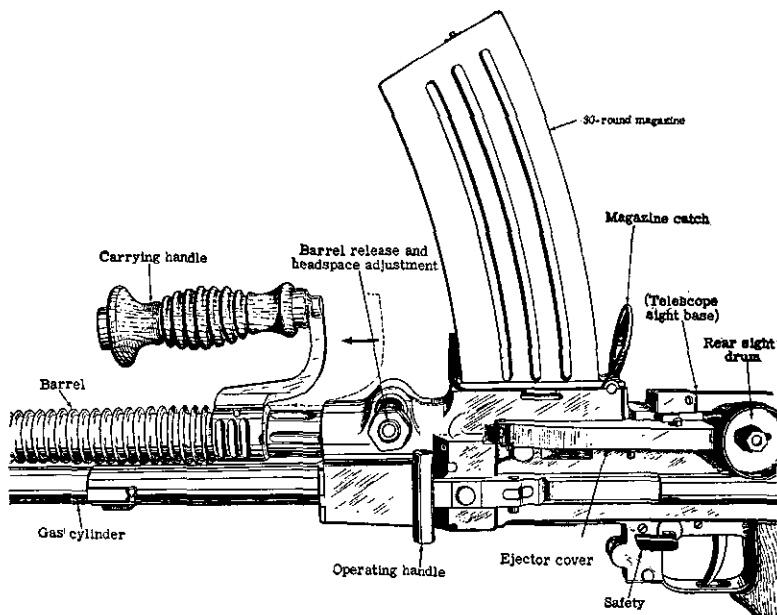

Figure 66.—Close-up of Model 99 (1939) 7.7-mm light machine gun, showing method of withdrawing barrel.
The Model 99 (1939) 7.7-mm light machine gun and the Model 99 (1939) 7.7-mm rifle use the Model 99 (1939) 7.7-mm rimless ammunition. Basically this new Model 99 (1939) 7.7-mm light machine gun is the same as the Model 96 (1936) 6.5-mm light machine gun (par. 22, p. 96). There are, however, two important differences: (1) a new method of changing the barrel (see fig. 66), a device which includes headspace adjustment, and (2) an adjustable rear monopod. Like the Model 96 (1936) 6.5-mm light machine gun, this weapon is fitted to take the Japanese service bayonet (fig. 20, p. 33).